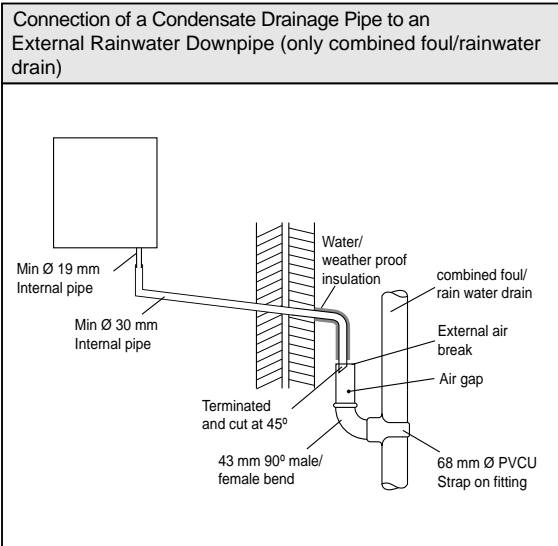

Figure 2.27
- When a rainwater downpipe is used, an air break must be installed between the condensate drainage pipe and the downpipe to avoid reverse flow of rainwater into the boiler should the downpipe become flooded or frozen, see Fig 2.27.